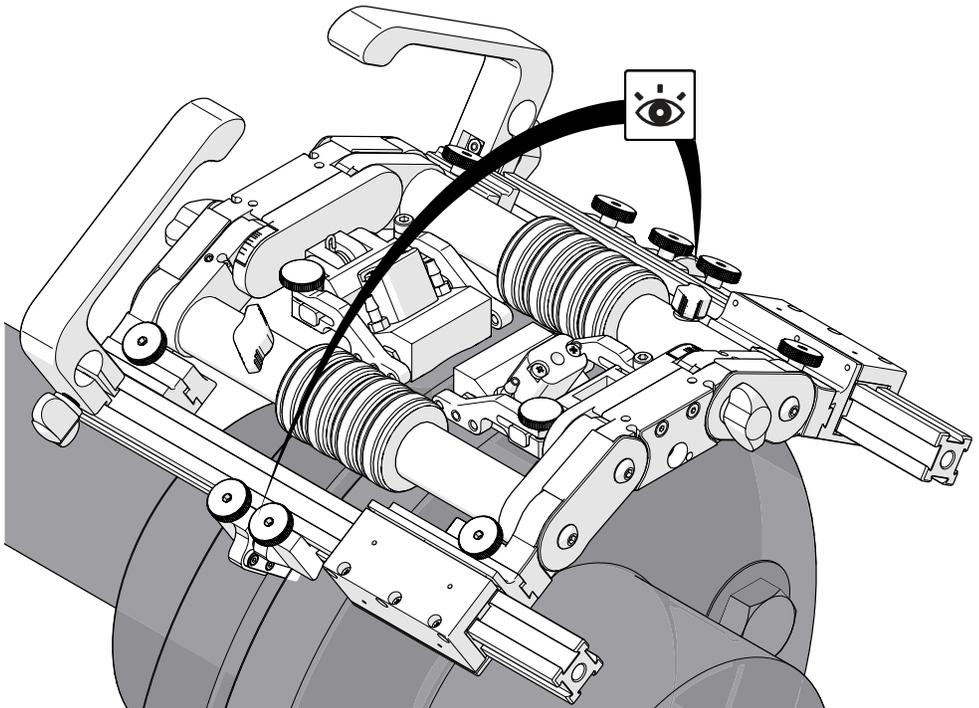

Fig. 52 - Align guides with the flange
11. Align the guides (Fig. 52) with the edges of the flange (see *Flange Scanner Guides* on page 12).